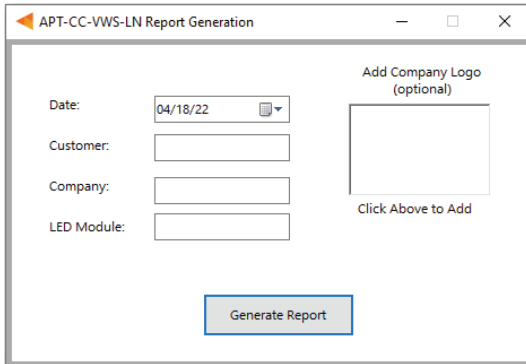

Figure 13: Report Generation window
- 1 Select **File > Generate Report**, or press **Ctrl+R**, to open the Report Generation Window (shown in Figure 13).